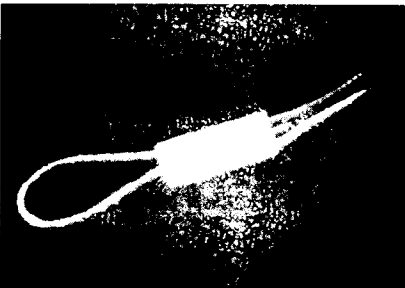

Figure 4 - 3-Wire Connector with Jumper
4. Inside the boiler, locate the female 3-wire connector in the boiler that has a brown, red, and white wire. This connector will have either a jumper plug or a cable going to a gas pressure switch. Remove the jumper plug or gas pressure switch from the connector. See Figure 4.